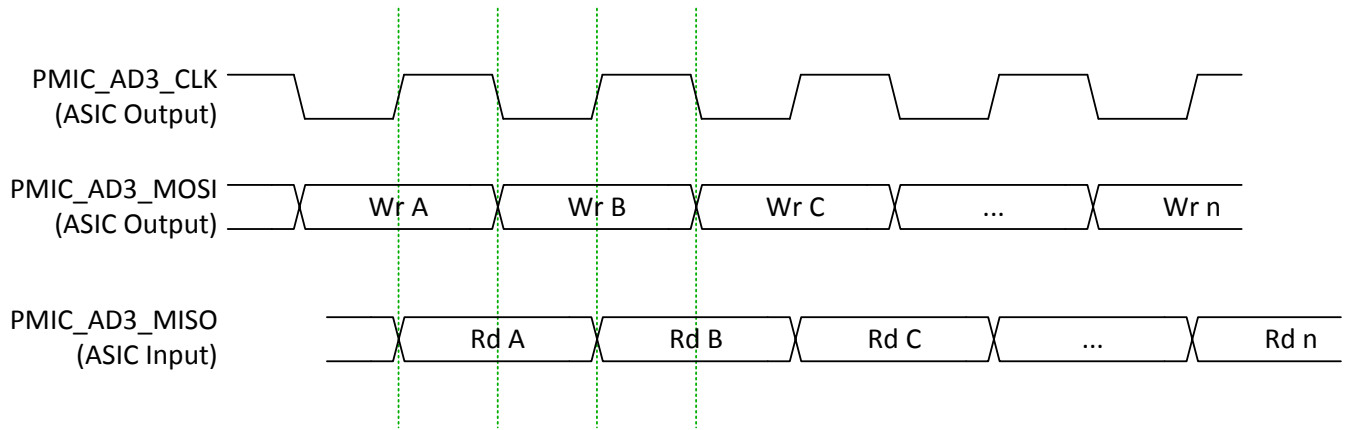

Figure 6-12. TPS99000S-Q1 AD3 Data Capture and Transition
- (1) The DLPC23xS-Q1 communicates with the TPS99000S-Q1 using a slight variant of SPI Transfer Mode 0 (that is, clock polarity = 0, clock phase = 0). Instead of capturing MISO data on the clock edge opposite from that used to transmit MOSI data, the DLPC23xS-Q1 captures MISO data on the same clock edge used to transmit the next MOSI data. As such, the DLPC23xS-Q1 SPI interface to the TPS99000S-Q1 requires that MISO data from the TPS99000S-Q1 remain active until the end of the full clock cycle to allow the last data bit to be captured. This is shown in Figure 6-12.